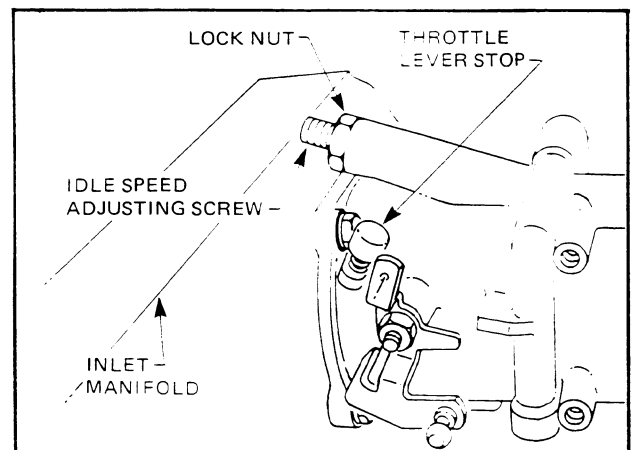

Figure 6C-61
1. Loosen off lock nut (Fig. 6C-61).
2. Install an accurate tachometer. Turn the idle speed adjusting screw to achieve the correct idle speed Fig. 6C-61.
DO NOT UNDER ANY CIRCUMSTANCES ADJUST THE THROTTLE LEVER STOP. (Refer Fig. 6C-61).